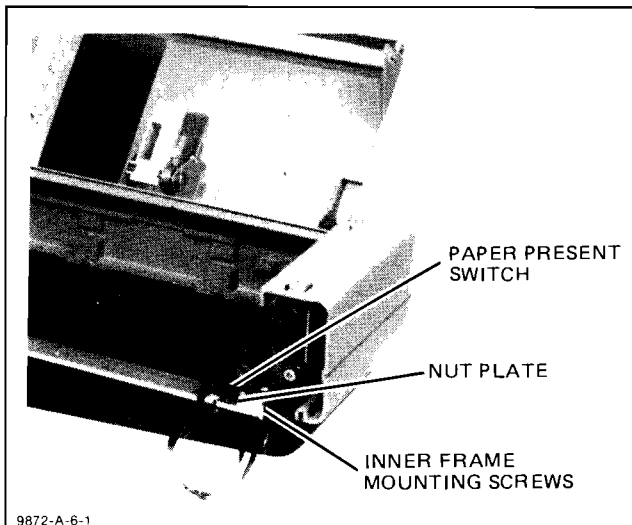

Figure A6-6. Paper Sensor Switch Replacement
- c. Remove the sensor switch plate mounting screws. See Figure A6-6.